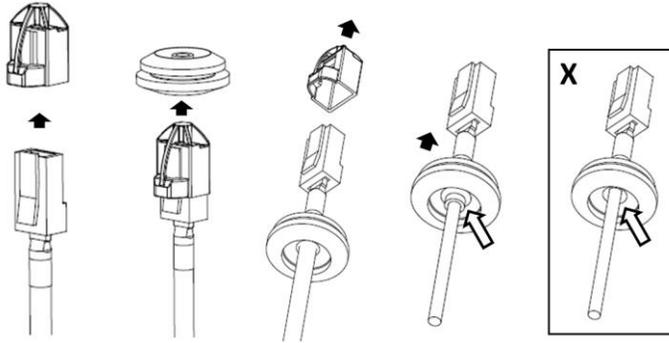

Figure 3
- Prepare the network cable with the supplied grommet and insertion tool as shown in Figure 3.